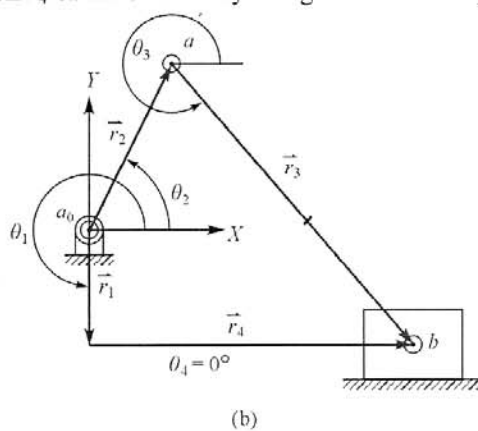

Fig. 2
2. Fig. 2 shows a slider crank mechanism with the offset distance r_1 , the lengths of link i ($i=2-3$) are r_i . If link 2 is the input link, that is, θ_2 is given. In addition, θ_1 is 270° , θ_4 is 0° . Find the closed form solution for the position r_4 of the slider 4 by using the vector loop closure approach. (25%)